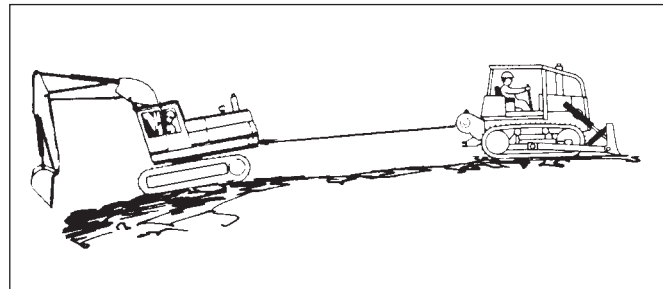

Figure 18 - Moving a Disabled Vehicle (Step B)
**B.** A tractor or skidder equipped with a winch can be used to pull another vehicle from mud or other areas where it cannot move using only the drive wheels or tracks. See Figure 18. Use the following procedure: